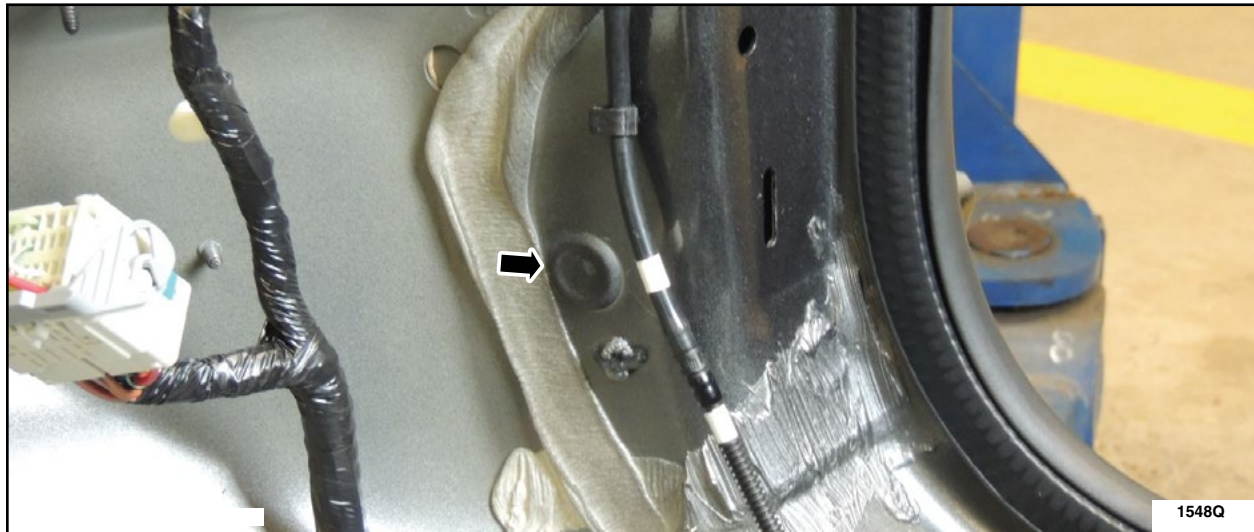

FIGURE 5
7. Remove and discard the round plug on the LH and RH lower cowl side. See Figure 5.